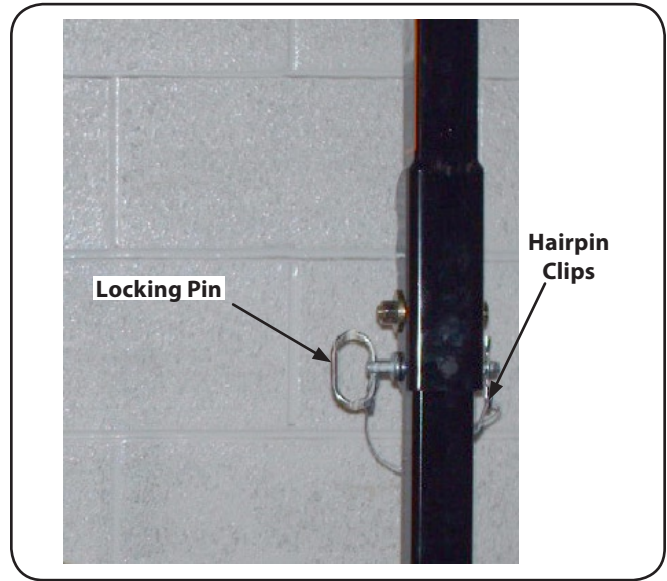

Figure 3-5
8. Move the upper ROPS section to the upright position, and insert the locking pins with their retainer hairpin clips. See Fig. 3-5.